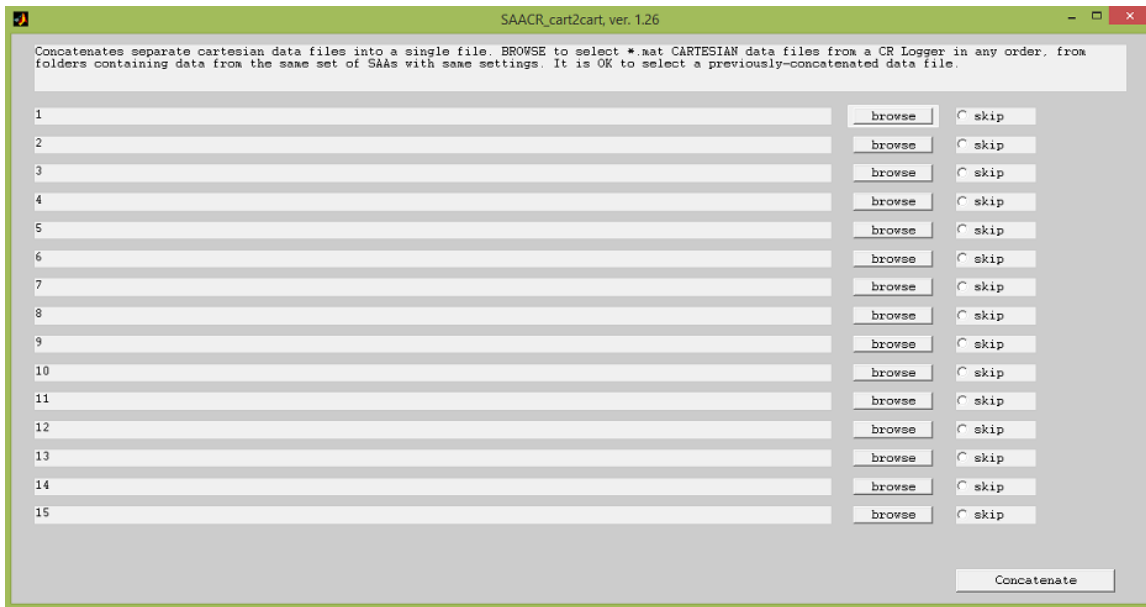

Figure A- 8: SAACR_cart2cart 'Initial' window.
1. Start SAACR_cart2cart (**Figure A- 8**).